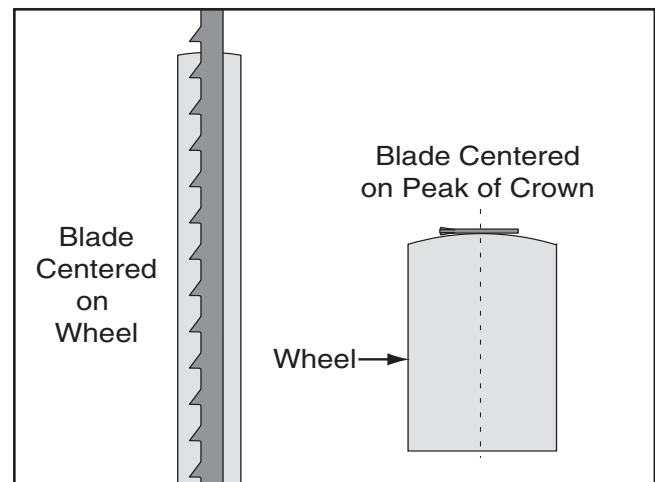

Figure 35. Center tracking profiles.
5. Spin the upper wheel by hand at least three times and watch how the blade rides on the crown of the wheel. Refer to **Figure 35** for an illustration of this concept.